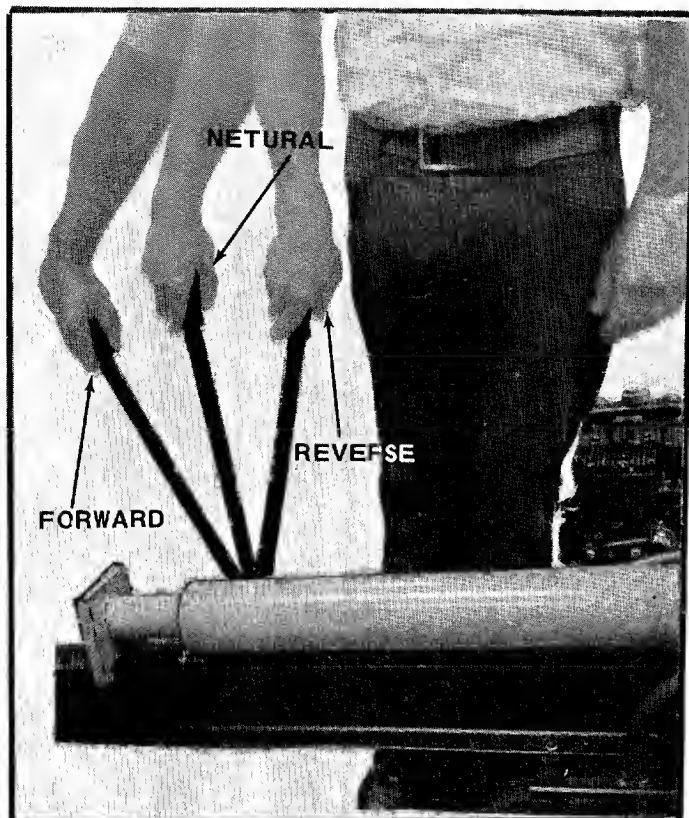

FIGURE 20
- B. Engagement handle has three positions: Forward—moves ram toward wedge. Neutral—ram stops in place. Reverse—ram returns. See figure 20.